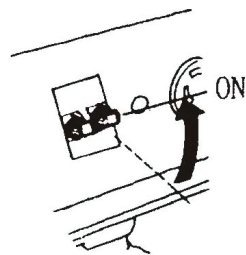

Figure 33
4.2.3 Turn on the circuit breaker AC (Figure 33)